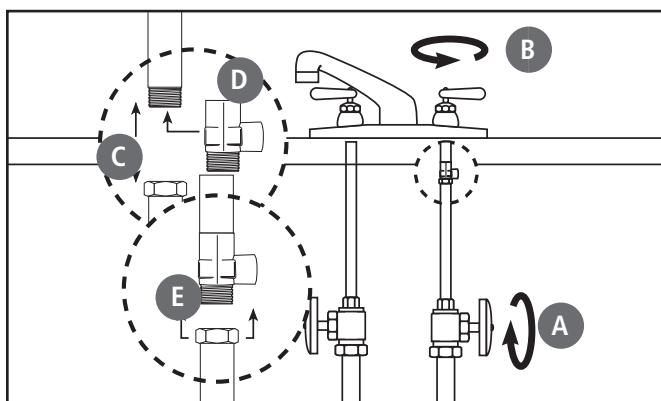

Figure 1
- Install the inlet supply adapter onto the cold water faucet stub (Figure 1).